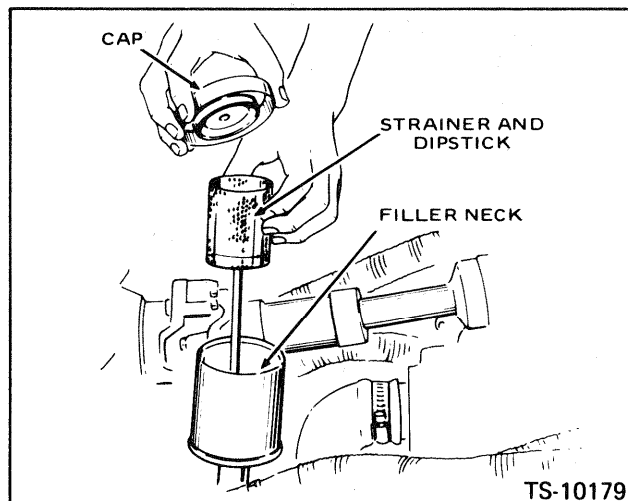

Fig. 9-1 Transmission Filler Neck, Cap, Dipstick and Strainer
Remove the floorboard in the operators compartment. Remove the filler cap from the filler neck, (See Fig. 9-1 for the position of the filler neck). Pull out the strainer and dipstick with a clean, lint free cloth. Re-insert to check the fluid level, pushing the strainer and dipstick down firmly. The fluid level must be at the FULL mark on the dipstick. If the fluid level is below the FULL mark, re-insert the strainer and dipstick, making sure that the strainer is clean and free from foreign material and fill as necessary.
7. Refill the transmission, torque converter and winch with the type of fluid specified in this manual through the filler neck (Fig. 9-1) until the correct level shows on the dipstick. Approximate capacity — 4.5 gallons (Imperial measure), 5.4 gallons (U.S. measure).
10. Refill the transmission, torque converter and winch restart and run the engine for 5 minutes at approximately 1,500 rpm, checking the filter assemblies, drain plug, hoses and connections for leaks. Recheck the transmission fluid level when it is at operating temperature (180°F. to 200°F.). Add fluid as necessary. Fig. 9-1.